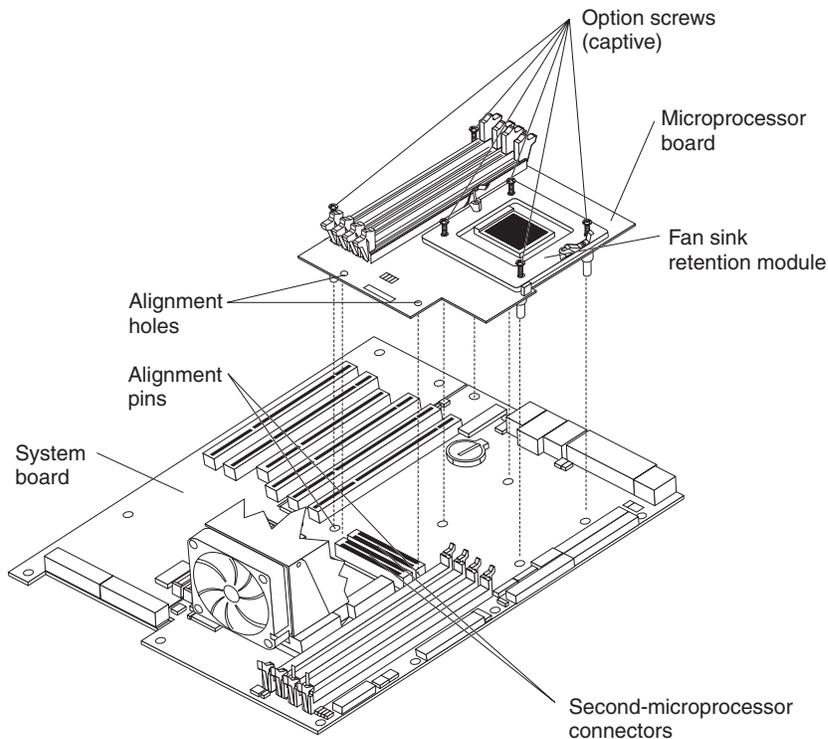

Figure 34. Removing the microprocessor board
2. Remove the six short screws from the system board (see Figure 34 on page 122 for the location of the six short screws).
3. Position the alignment holes in the microprocessor board over the two plastic alignment pins on the system board; then, lower the microprocessor board onto the alignment pins (see Figure 34 on page 122).